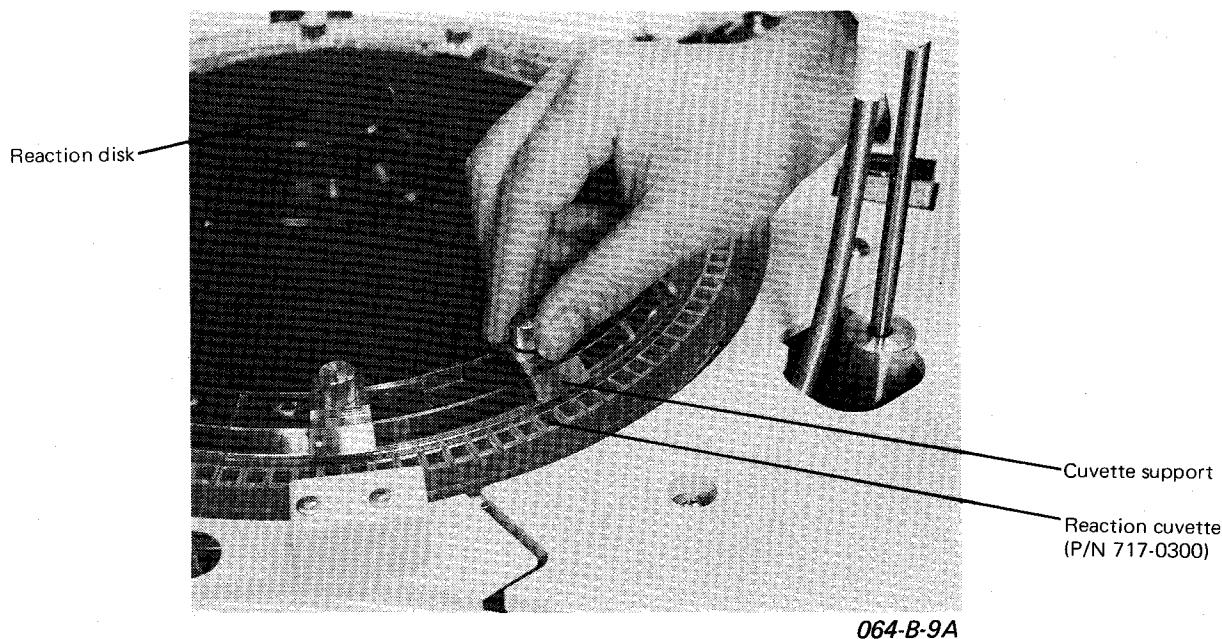

Fig. 1-13 Mounting of Reaction Cuvettes
- 1) Put a reaction cuvette into a guide hole on the reaction disk periphery, and secure it by tightening the setscrew of cuvette support as shown in Fig. 1-13.